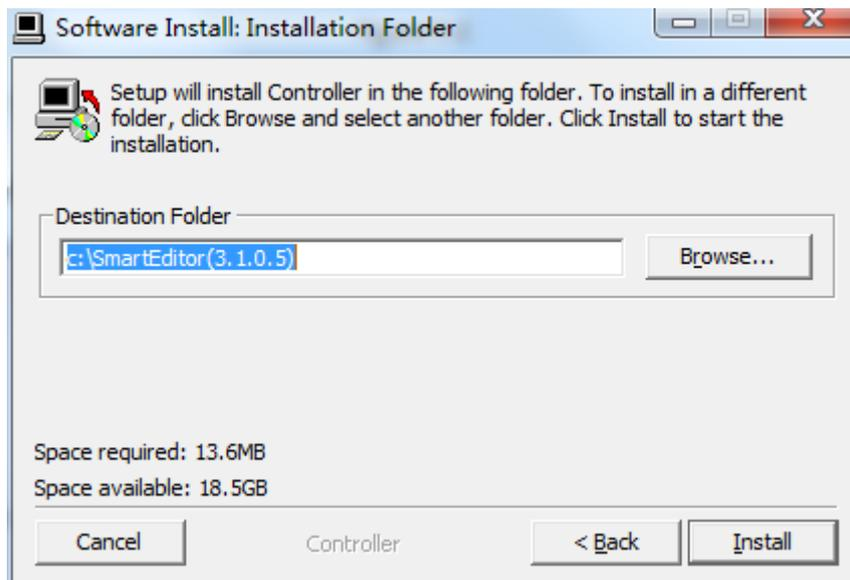

Figure 5-4
(5) Select the suitable installation root directory, and click the “Install”, as shown in the figure 5-4;